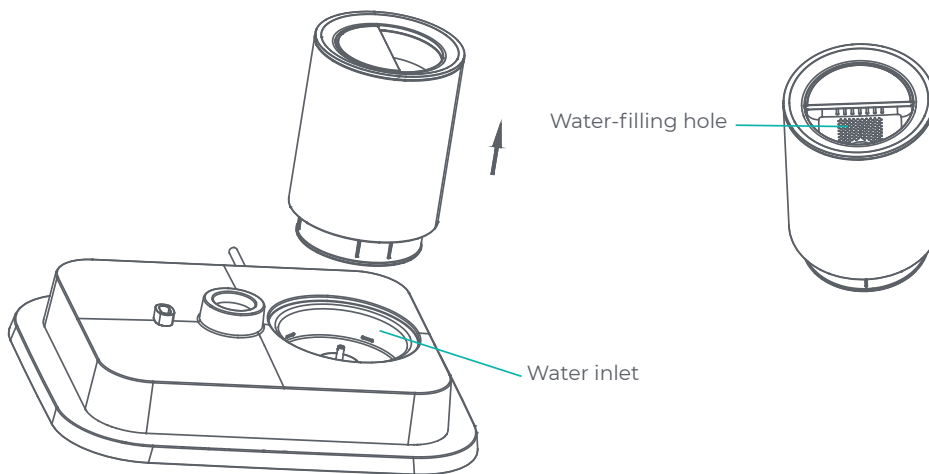

Fig. 12
1. Remove the water tank from the main body and fill the water tank with proper amount of clean water (see Fig. 12).